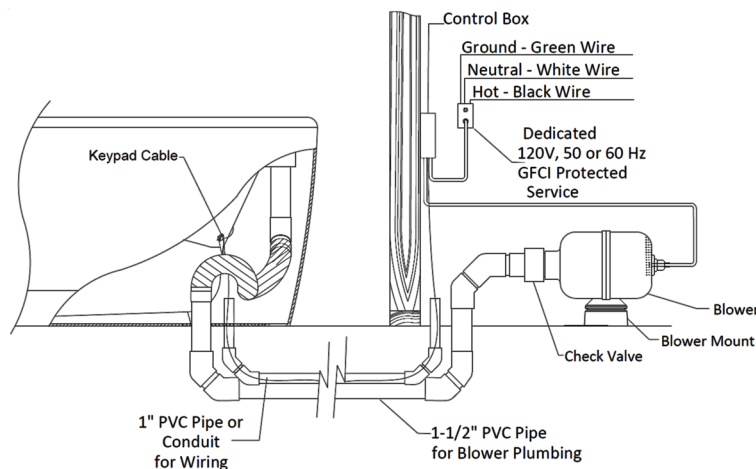

Figure 8- Below Floor Installation
24. **Route cables.** When applicable, route any electronic cables through the floor cutout and make the appropriate connections to the control box. See the **CONTROL BOX CONNECTIONS** section of this manual for locations. **See Figures 8 & 8a on page 19.**
6. Extend piping stub-out through the floor as illustrated in **Figure 8**. Piping between the remote blower location and the bath can be insulated using a minimum of ½" [13mm] thick insulation. Attach new piping to the elbow of the existing piping.